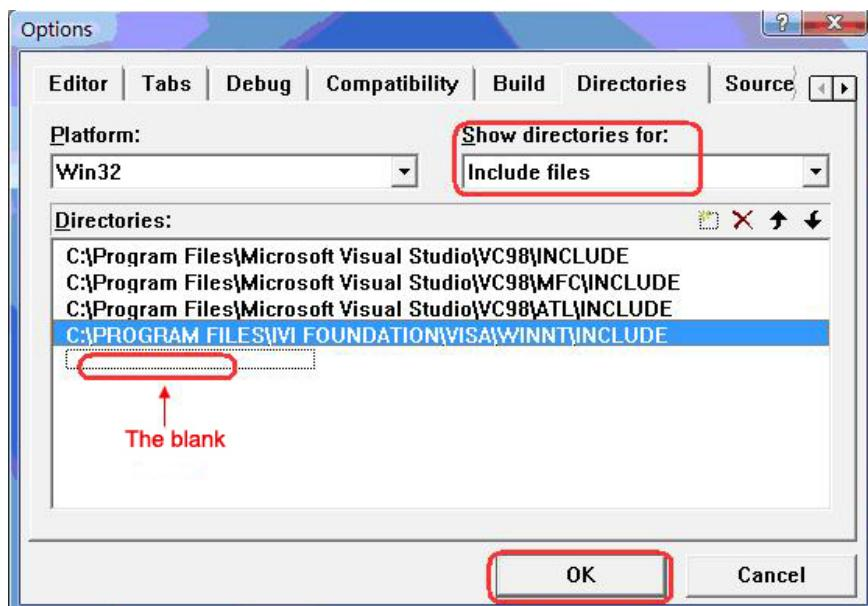

Figure 4-1-3
2. Choose Tools->Options ->Directories; select Include files in Show directories for, and then double click the blank in Directories to add the path of Include: C:\Program Files\IVI Foundation\VISA\WinNT\include, as is shown in figure 4-1-3.